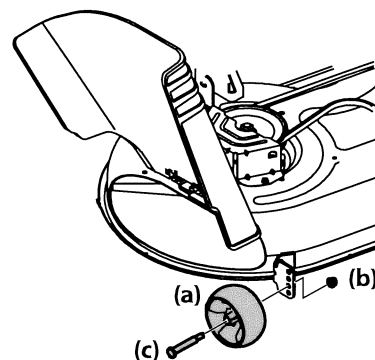

Figure 2-11
- b. Remove the front and rear deck gauge wheels (a) by removing the lock nuts (b) and shoulder screws (c) which secure them to the deck. See Figure 2-11.